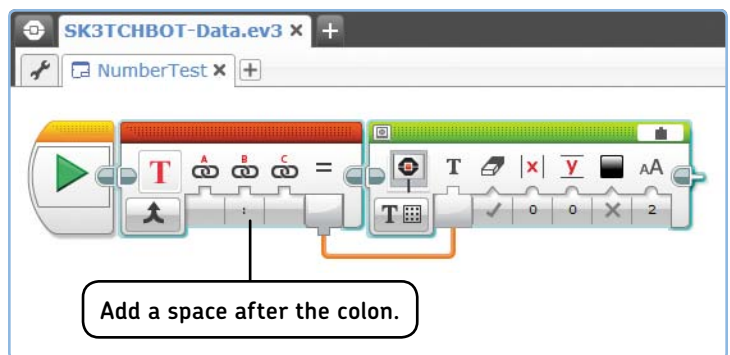

Figure 15-15: Configure a Text block and a Display block as shown and then select both blocks.
2. Place and configure a Text block and a Display block on the canvas, as shown in Figure 15-15. You’ll use the Text block to combine the Label input, a colon followed by a space, and the Number input into one text line, and you’ll use a Display block to show it on screen. Then, select both blocks by dragging a selection around them with your mouse.